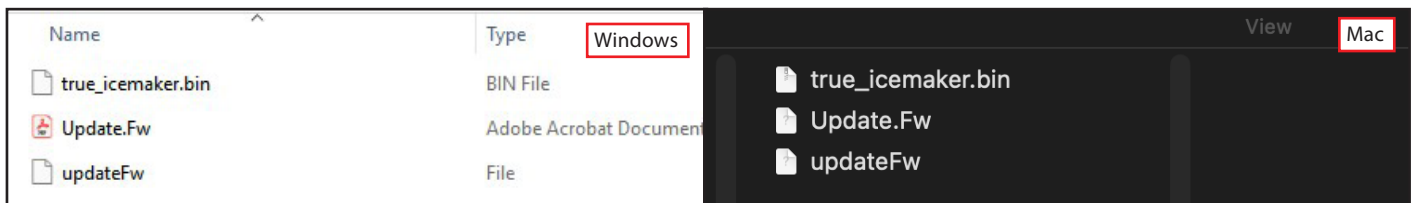

Fig. 7. Open the firmware folder.
7. Open the downloaded firmware folder (ZIP). See fig. 7.